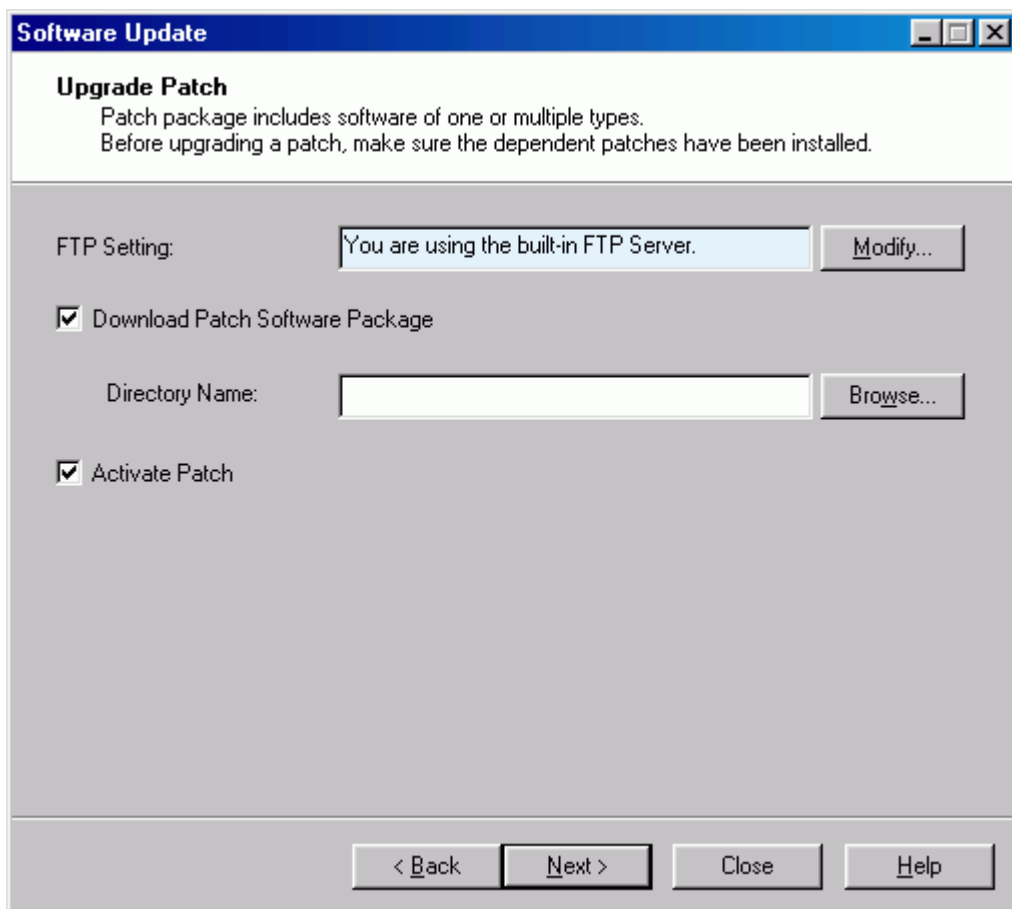

Figure 14-7 Upgrade Patch dialog box
- 3) Click **Next**. The **Upgrade Patch** dialog box opens up as shown in Figure 14-7.
The **Upgrade Patch** dialog box opens up as shown in Figure 14-7.